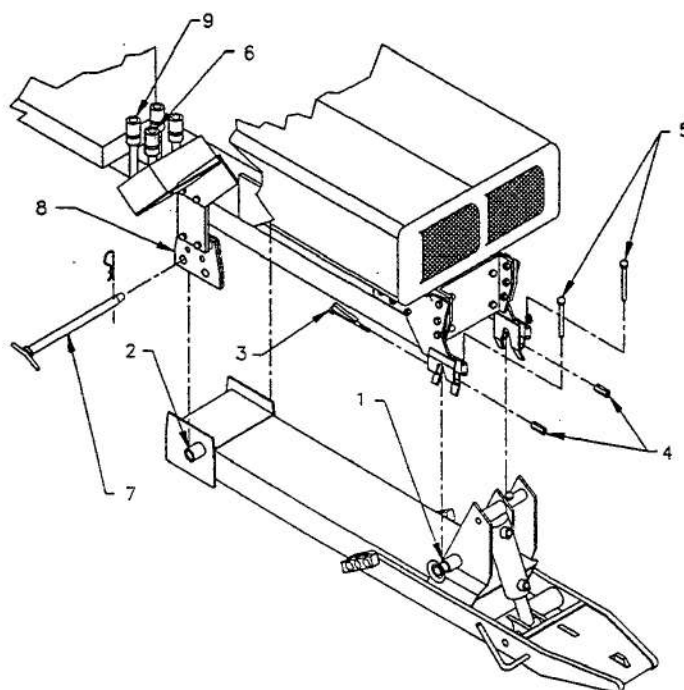

FIGURE 17
- Carefully place tractor over subframe assembly (be careful not to drive over hydraulic hoses). Make sure subframe front pins (fig.17, item 1) are under front attaching plates and subframe welded sleeves (fig. 17, item 2) are under rear attaching plates (fig. 17, item 8).
- With the engine turned off, release pressure from hydraulic system by moving valve handle back and forth and sideways. Connect lift cylinder base end hose to outside rear (yellow) quick coupler (fig. 17, item 9) and connect cylinder rod end hose to outside front (white) quick coupler (fig. 17, item 6 for tractor without loader and for tractor with loader). Identify female quick coupler on tractor with a red and blue plastic ring to match lift cylinder hoses.
- f) Sitting on the tractor seat with the engine running, carefully push valve handle forward to raise front of subframe completely into the front attaching plates. Turn engine off, set parking brake and insert one support bolt (fig. 17, item 3) (wedge on upper side of bolt) from back side of each front attaching plate. Secure support bolt using the special nuts (fig. 17, item 4). Do not tighten yet.
- g) Sitting on the tractor seat, start engine and pull valve handle backward to raise male hitch to maximum height. Turn tractor engine off. Using a jack under middle of subframe, raise subframe inside rear and front attaching plates. Do not support jack under shaft in subframe. Insert 31/32 dia. x 15 3/8" inch pin (fig. 17, item 7) through rear attaching plates and subframe and lock in place using 4 mm X 80 mm hair pin. Tighten special nuts (fig. 17, item 4) on front attaching plates and lock with pins. Remove jack and 5" block from under tractor.
- d) Sitting on tractor seat and using valve handle, raise attachment to maximum height to raise rear pin points into rear attaching plates. Turn engine off, set parking brake and remove key. Attach subframe to rear attaching plates using the 15 3/8" pin locked with hairpin. Secure front support bolts tightly with special nuts (fig. 17, item 4) and lock with pins.
- c) Sitting on tractor seat and using valve lever, carefully lower attachment in order to raise subframe front pins completely into front attaching plates. Insert wedge bolts (fig. 17, item 5), with the wedge on the upper side of the bolt, and secure tightly with special nuts (fig. 17, item 4).